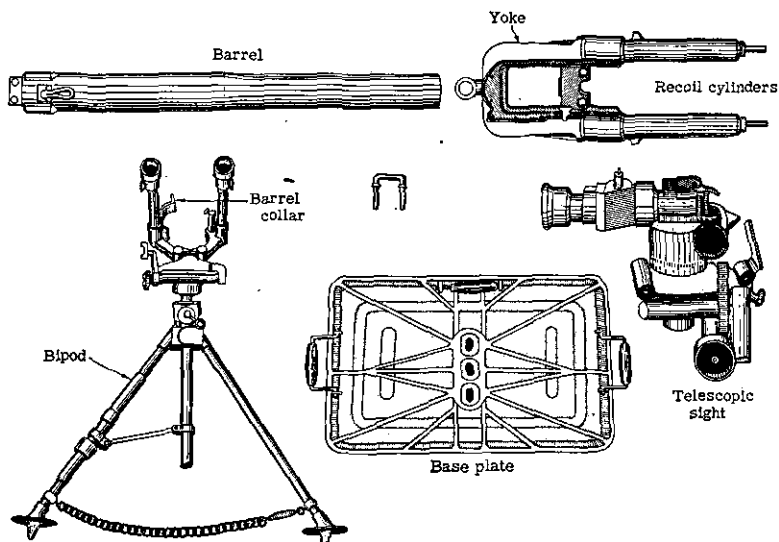

Figure 104.—Model 94 (1934) 90-mm mortar disassembled.
(2) *Stripping.*—The Model 94 (1934) 90-mm mortar can be disassembled into four parts (fig. 104): the